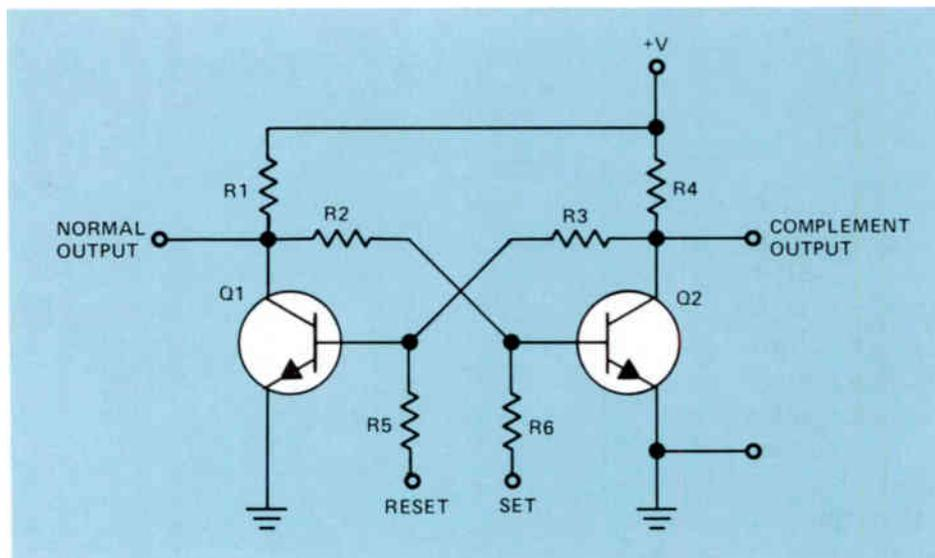

Figure 36. A set-reset flip-flop circuit.
shown in Fig.36. With the normal output taken from the collector of Q1 when the transistor is cut off, the collector voltage will go to +V, which will represent a binary 1 with positive logic. When Q1 is cut off, Q2 will saturate.
- 22 If the flip-flop circuit shown in Fig.36 is storing a binary 0 in the normal output, how do we change it to store a binary 1?